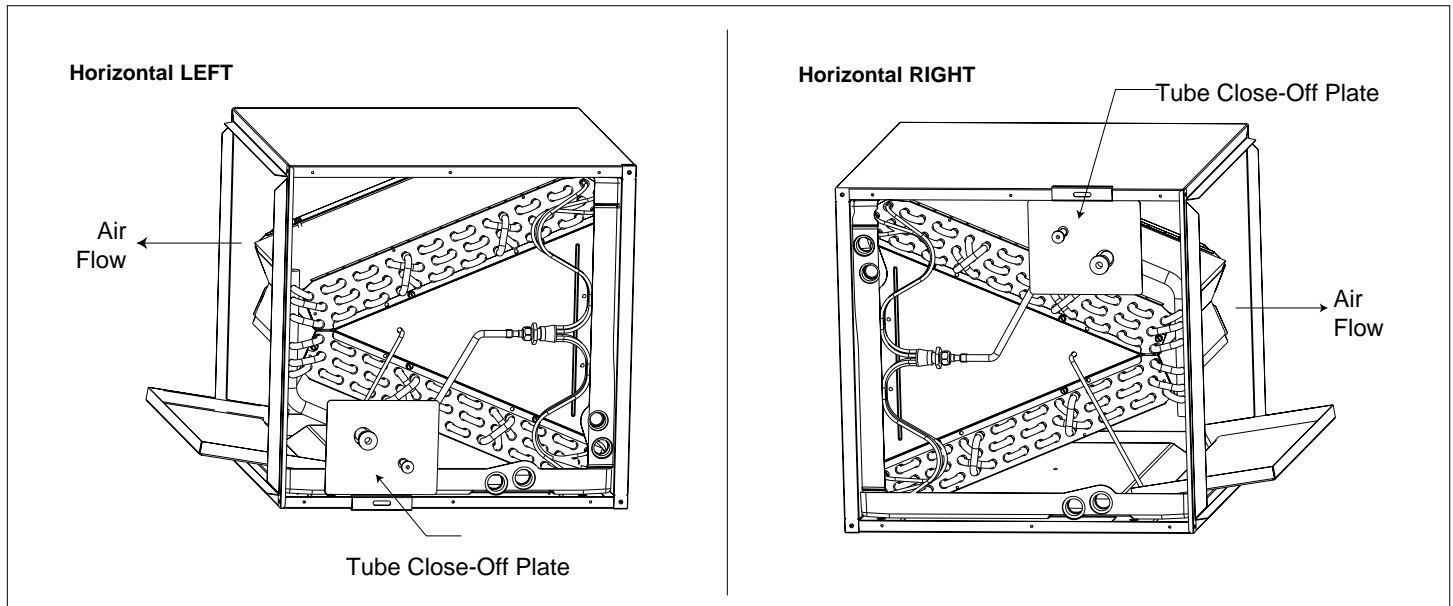

Figure 6
- 12) Place the tube close-off plate over the suction and liquid headers and screw onto front cabinet rail.(See Figure 6.)